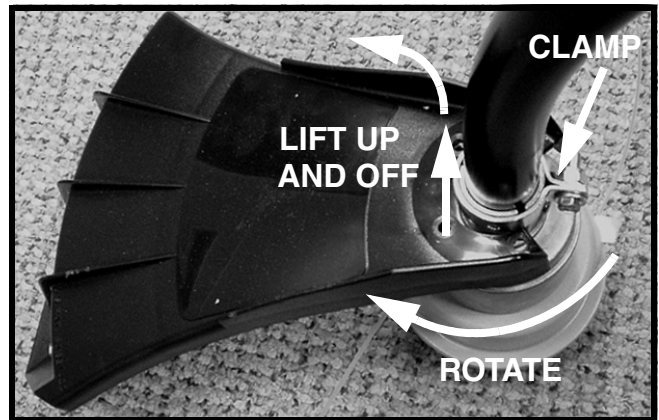

FIGURE 3
5. Rotate shield assembly 180° as the arrow indicates in Figure 3.